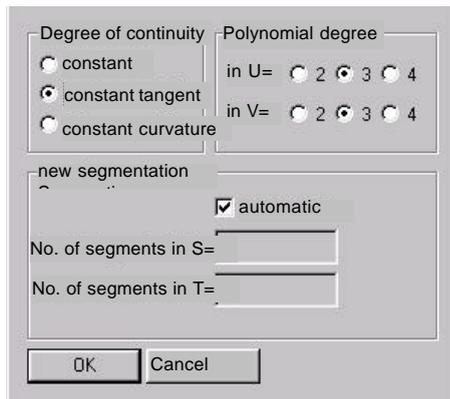

Figure 4-5
- The window in Fig. 4-5 opens.